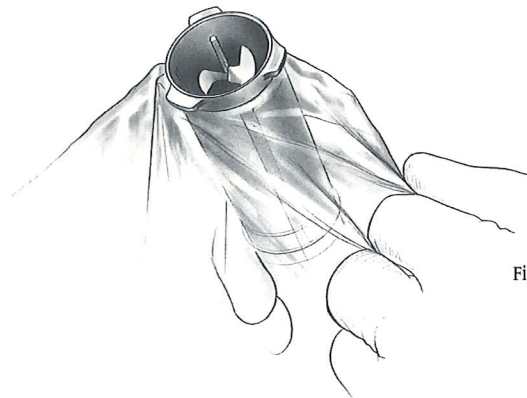

Fig. 6
6. Place the Milling Drape over the end of the shield/plunge guide. The hole in the center of the drape fits over the base of the safety shield (Fig. 6).